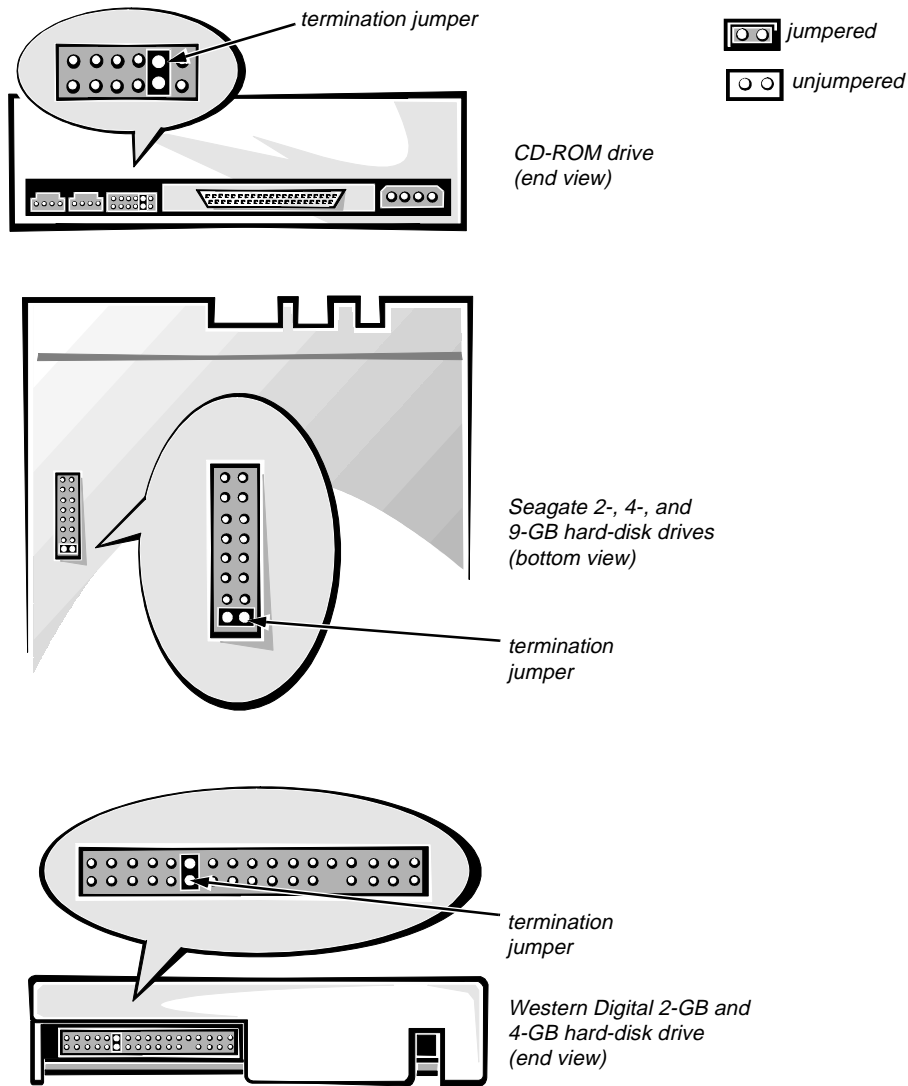

Figure 1-5. SCSI Termination Jumper Examples
- Termination is set on the SCSI hard-disk drive installed in the left bay of the internal drive bays when the drive is installed by Dell. Termination should be disabled on any other drives installed in the internal bays. Figure 1-5 shows where the termination jumper should be located on the Dell-supplied 2-gigabyte (GB), 4-GB, and 9-GB SCSI hard-disk drives for the PowerEdge 2200 system.
- If you install an optional SCSI controller card to control the CD-ROM drive and any other SCSI device in the externally accessible drive bays, you must enable termination for the SCSI controller card and the SCSI device at the end of the SCSI interface cable (preferably the CD-ROM drive). See the documentation that came with your SCSI controller card for instructions. Figure 1-5 shows an example of a SCSI termination jumper on a CD-ROM drive.